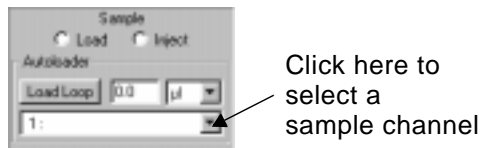

Figure 5-19 Sample Section of Control Panel
2. Select a **sample channel** to inject from by clicking the down arrow to the right of the list box at the bottom of the Sample section (Figure 5-19).